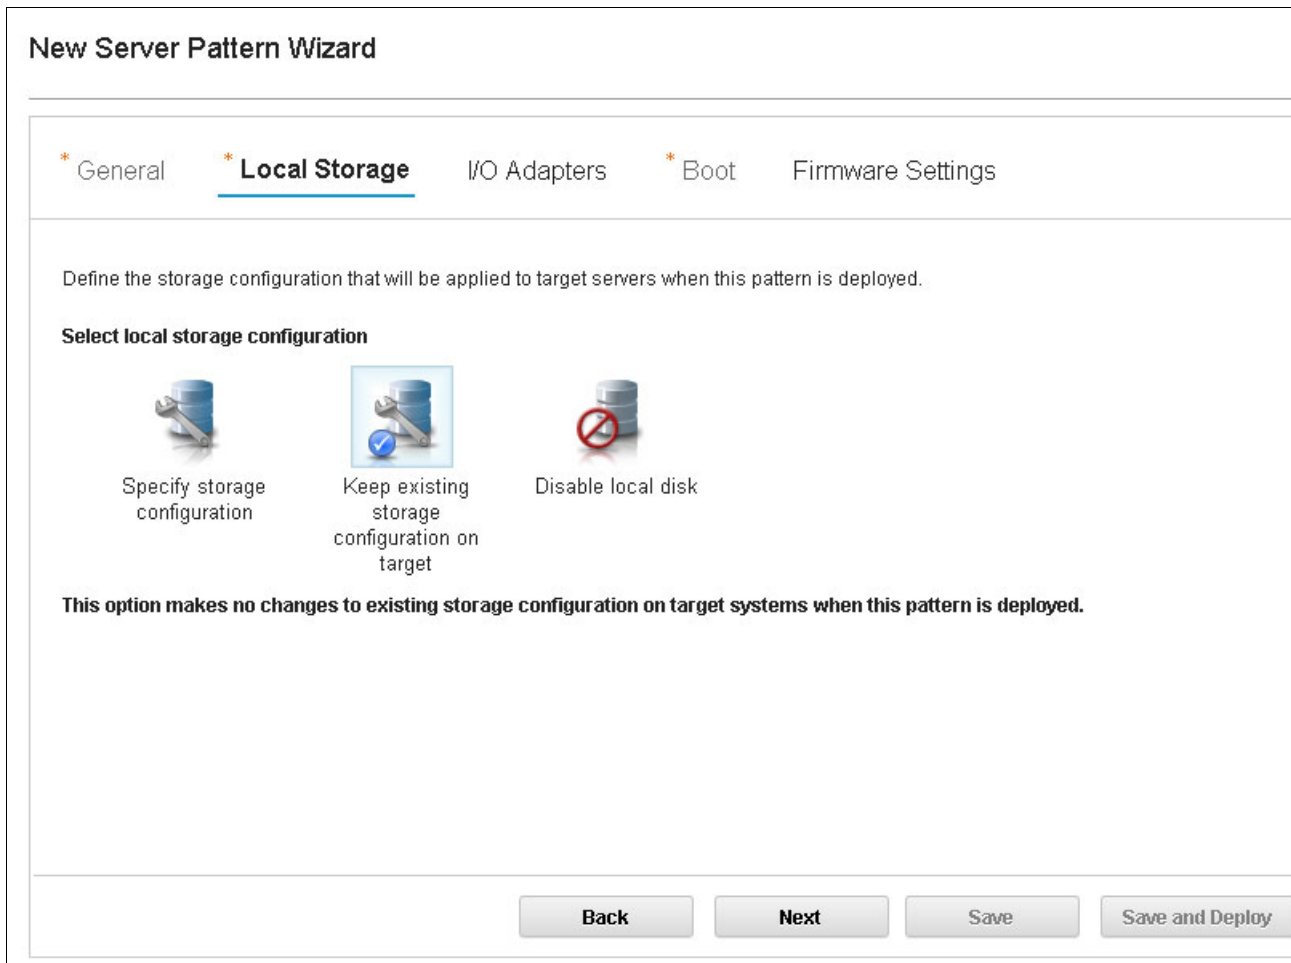

Figure 6-43 New Server Pattern Wizard: Local Storage
- The next window provides options for local storage configuration. You can specify a new storage configuration or keep the existing storage configuration on the target, or disable local disks as shown in Figure 6-43. Choose the required option and click **Next**.